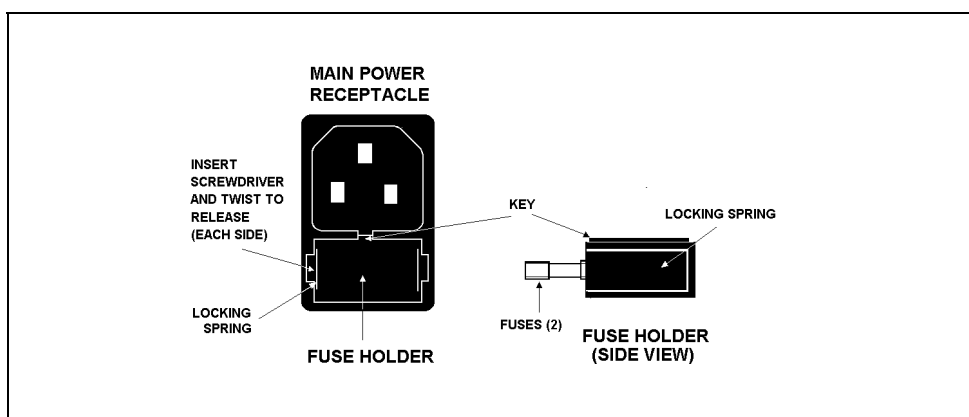

Figure 5-1. Main Power Receptacle
2. The fuse holder is in the main power receptacle on the ED40 rear panel (see Figure 5-1). A recessed lock is located on each side of the fuse holder. Using a small screwdriver (or your fingernails), push each lock toward the center. When the locks are released, the fuse holder pops out about 0.16 cm (1/16 in). Pull the fuse holder straight out of its compartment.